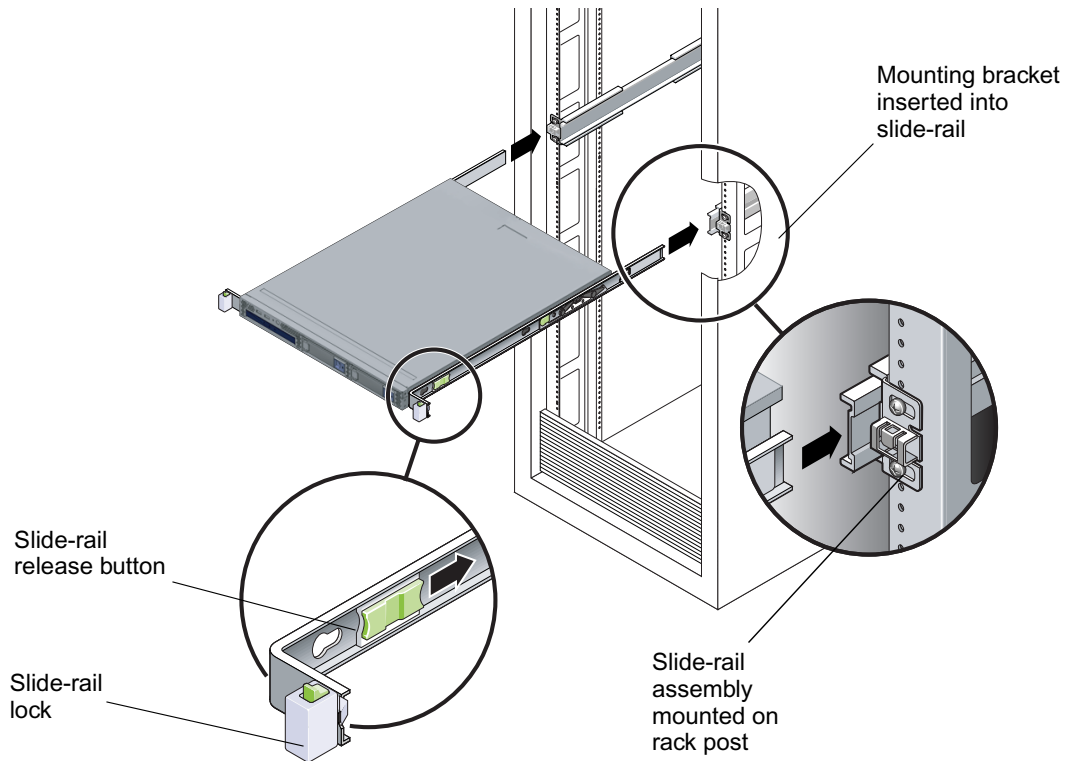

FIGURE 1-7 Inserting the Server With Mounting Brackets Into the Slide-Rails
2. Raise the server so that the rear ends of the mounting brackets are aligned with the slide-rail assemblies that are mounted in the equipment rack. (See FIGURE 1-7.)
4. Simultaneously pull and hold the slide-rail release buttons on each mounting bracket while you push the server into the rack. (See FIGURE 1-7.) Continue pushing until the slide-rail locks on the front of the mounting brackets engage the slide-rail assemblies.
- b. The second set of stops are the slide-rail release buttons, located near the front of each mounting bracket. See FIGURE 1-7. Simultaneously push or pull both of the slide-rail release buttons and push the server completely into the rack until both slide-rail locks engage.